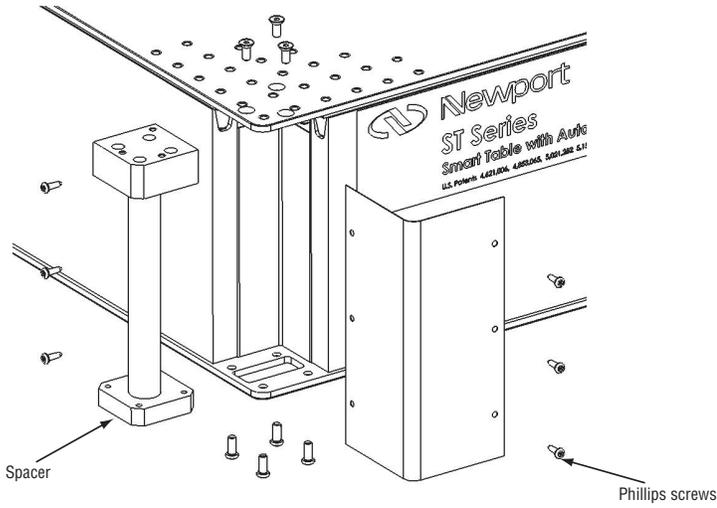

Figure 1: ST-UT or ST-UT2 Series table before iQ damping upgrade
1. Remove the two corner pieces from the table by unscrewing 6 screws from each corner piece (See figure 1 below). Use a Phillips screwdriver to remove the screws.